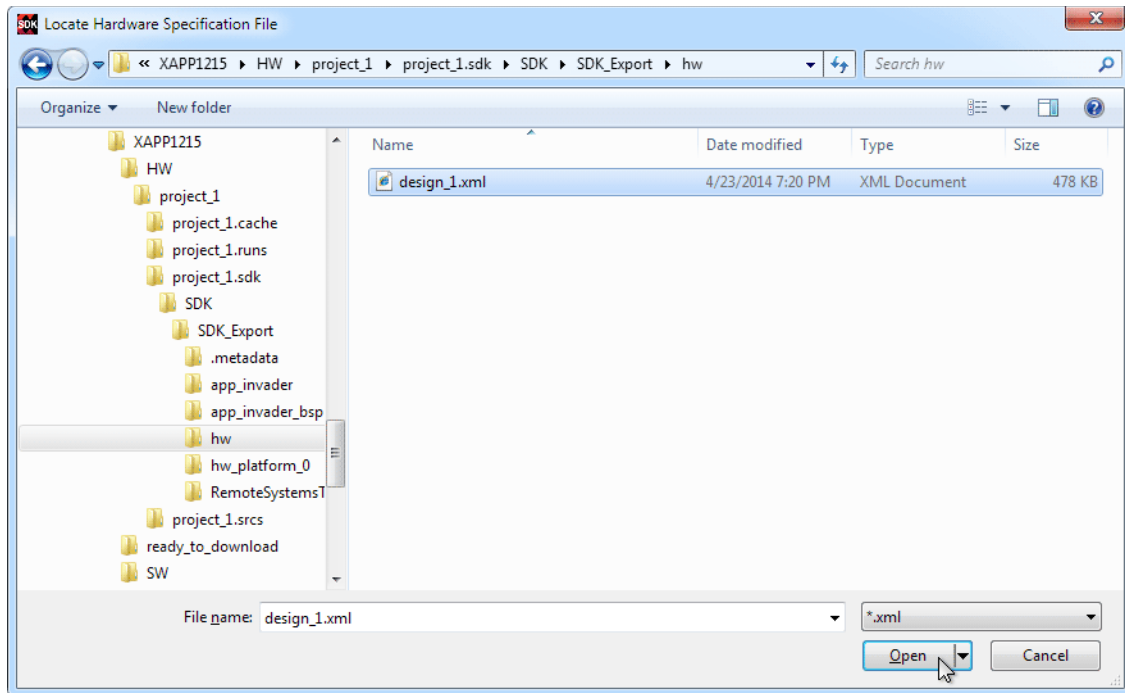

Figure 9: Locate Hardware Specification File
7. Select the `design_1.xml` file at this location and click **Open** (Figure 9):